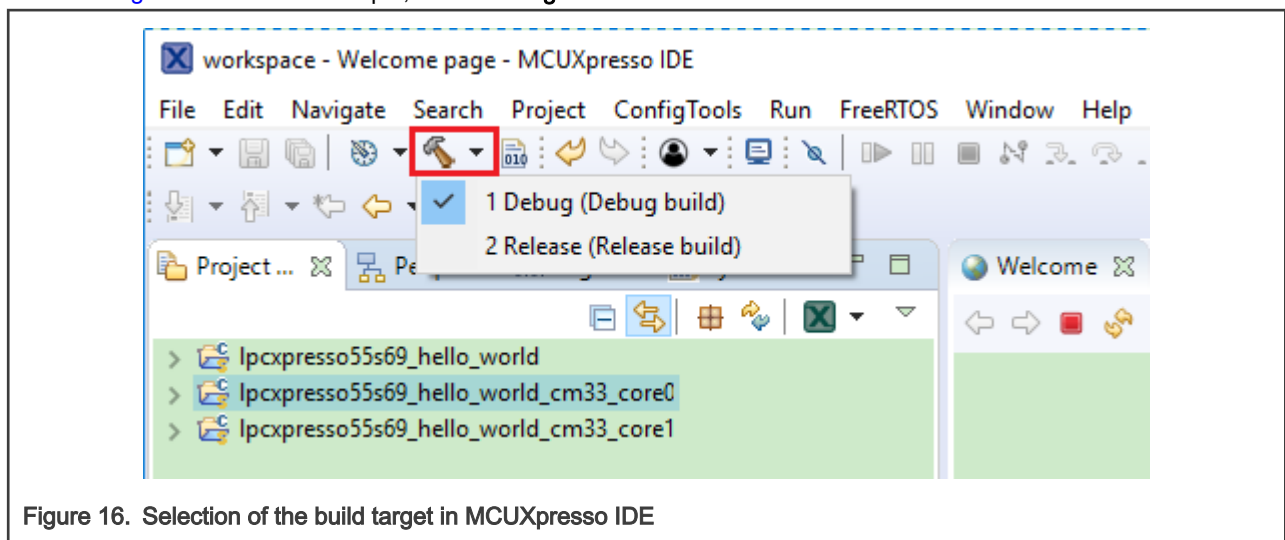

Figure 16. Selection of the build target in MCUXpresso IDE
- Now, two projects should be imported into the workspace. To start building the multicore application, highlight the `lpcpresso55s69_hello_world_cm33_core0` project (multicore master project) in the Project Explorer. Then choose the appropriate build target, **Debug** or **Release**, by clicking the downward facing arrow next to the hammer icon, as shown in Figure 16. For this example, select **Debug**.